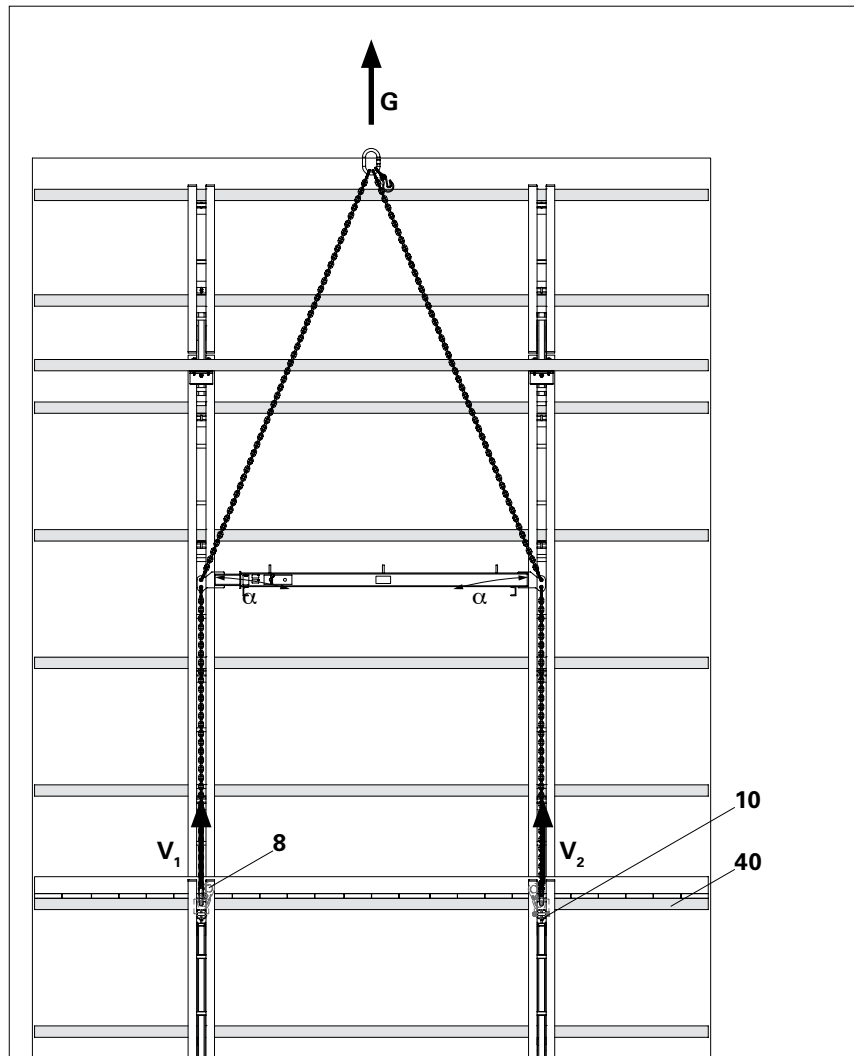

Fig. B2.01
Girder (40) as compression brace (Fig. B2.01)
- With heavy climbing units where a load of more than 25 kN per attachment point must be lifted, attach the PERI Lifting Beam RCS 9t to a Spacer. (Fig. B2.01)